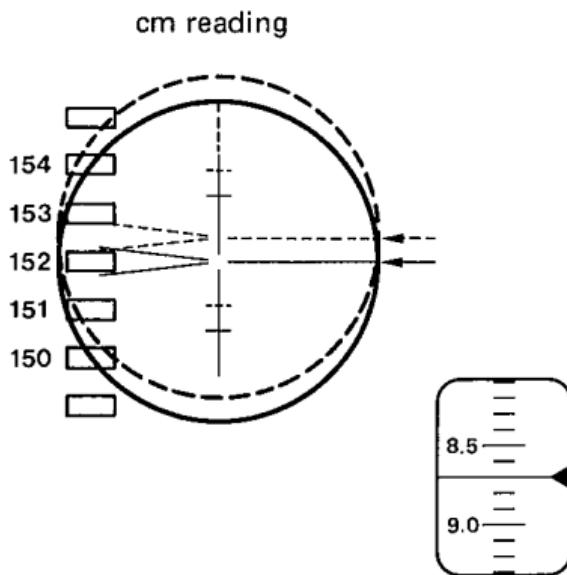

Fig.6.4
- 1) Mount the OM5 on the telescope of the B20/B21 and push the locking lever fully forward to lock it. (The lens hood ① should be retracted.)
- 2) Turn the micrometer knob to move the line of sight until the graduation mark on the staff comes to the middle point between the two wedge reticle lines for an accurate reading, as shown in Fig.6.4.